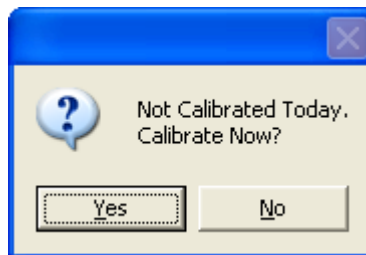
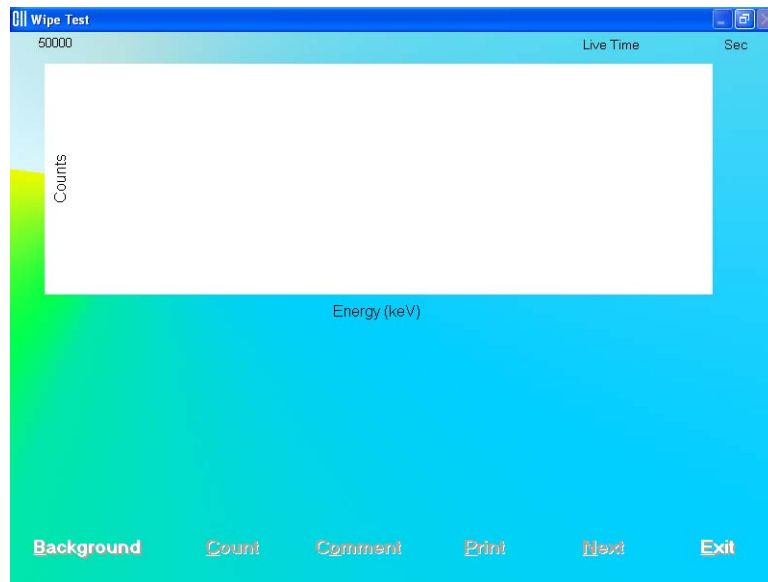

Figure 8-14
Figure 8-15 Wipe Test Measurement Screen
4. To begin the measurements, click the **Count** button or press *Alt+C*. Figure 8-15 Wipe Test Measurement Screen will appear.
**Note:** If calibration has not been performed for the current day, you will be prompted with the screen as shown in Figure 8-14. After the calibration is complete, the program will return to Figure 8-15 Wipe Test Measurement Screen.